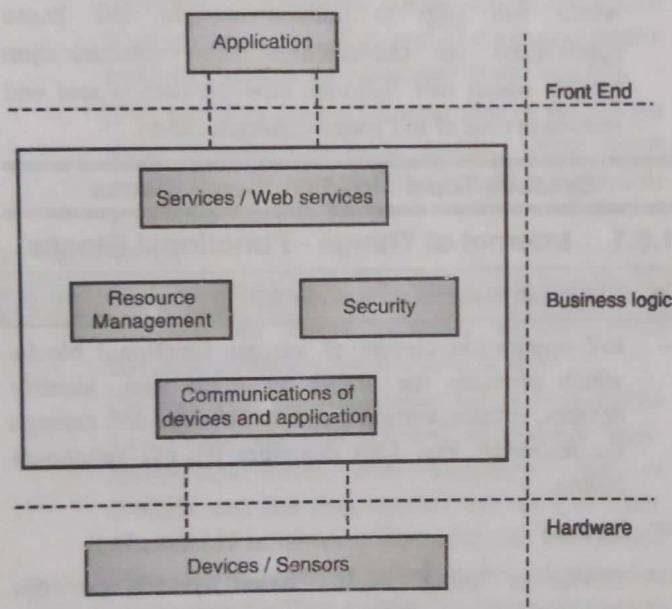

Fig. 1.8.1 : IoT Functional Block
- IoT application consist of various functional blocks which provides the ability to sense data, identify devices, actuate, communicate in between and manage the resources. Fig. 1.8.1 describes the IoT functional blocks.